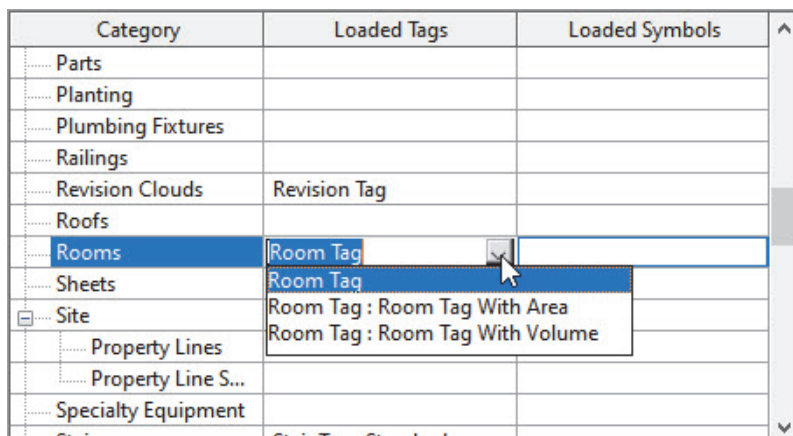

Figure 1-59
8. If multiple tags are loaded for a category, you can choose which one is the default tag by choosing it in the *Loaded Tags* column, as shown in Figure 1-59.